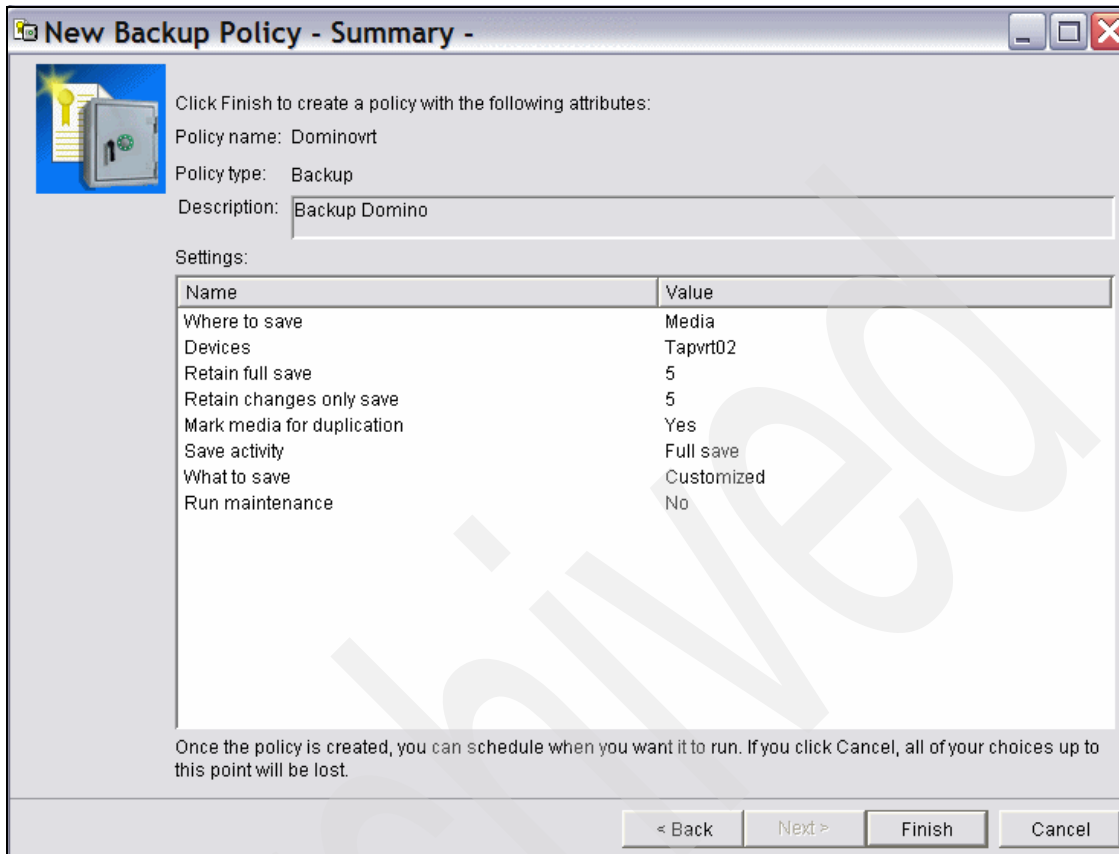

Figure 5-41 BRMS backup policy, summary
28. In the New Backup Policy Summary window shown in Figure 5-41 on page 229, click **Finish**.